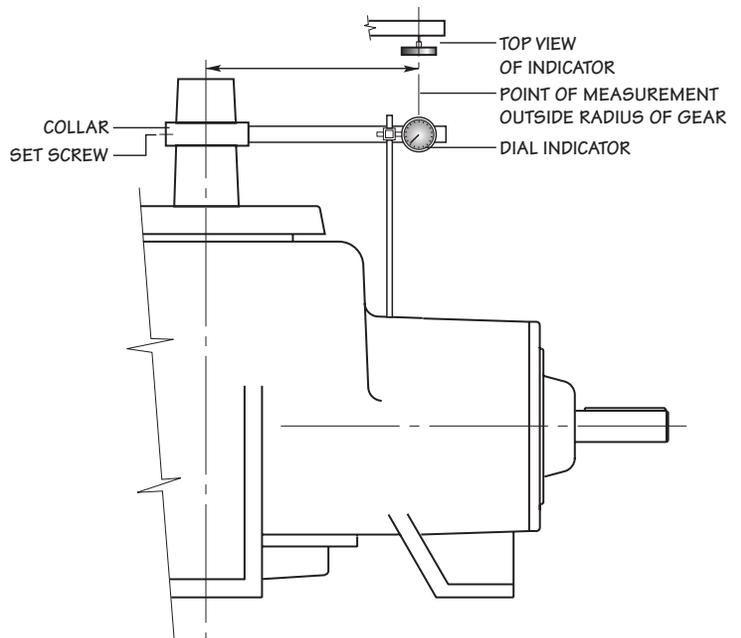

Figure 5 Gear Backlash Measurement
With the "X" marked tooth on the pinion gear engaged between the two "X" marked teeth on the ring gear, check the backlash with a dial indicator as shown in Figure 5. Lock the pinion shaft against rotation. The amount of movement of the fan shaft, measured at a distance equal to the outside radius of the ring gear is the backlash. The backlash on all ratios should be between .007 and .014" (.18 and .36mm). With the "X" teeth engaged, the backlash should be approximately in the middle of the allowable range. Check the backlash at three other points around the ring gear to be sure the backlash is within the specified limits. Adjust ring gear axially by removing or adding shims (420) at bottom bearing cap.